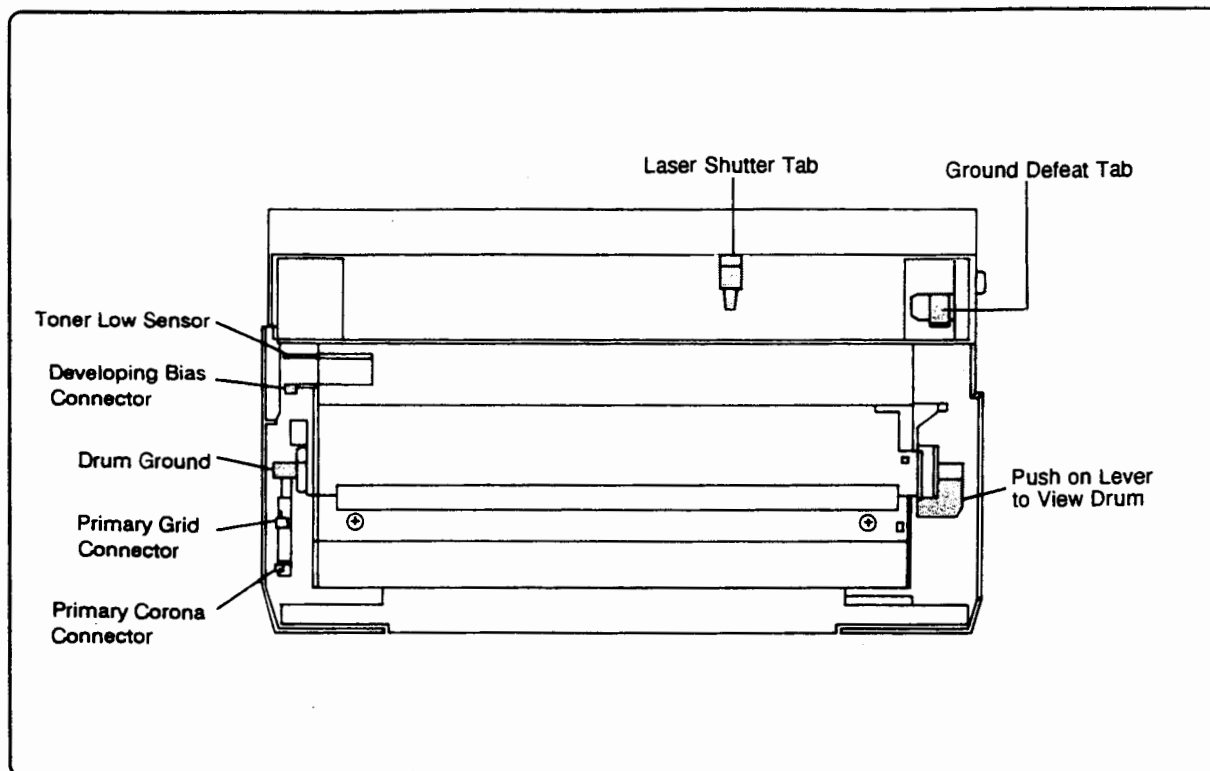

Figure 7-27. EP-S Cartridge (Bottom view)
3. Open the EP-S Cartridge's drum shield (see Figure 7-27) to view the drum's surface.
<p>2. Inspect the EP-S Cartridge and verify that the following connectors are not damaged, dirty, or missing:</p> <ul style="list-style-type: none"> ■ Primary Corona connector. ■ Primary Corona Grid connector. ■ Drum Ground connector. ■ Developer Bias connector. ■ Toner Sensing connector. 	<p>Visually inspect (see Figure 7-27). Correct, or if necessary, replace the EP-S Cartridge.</p>